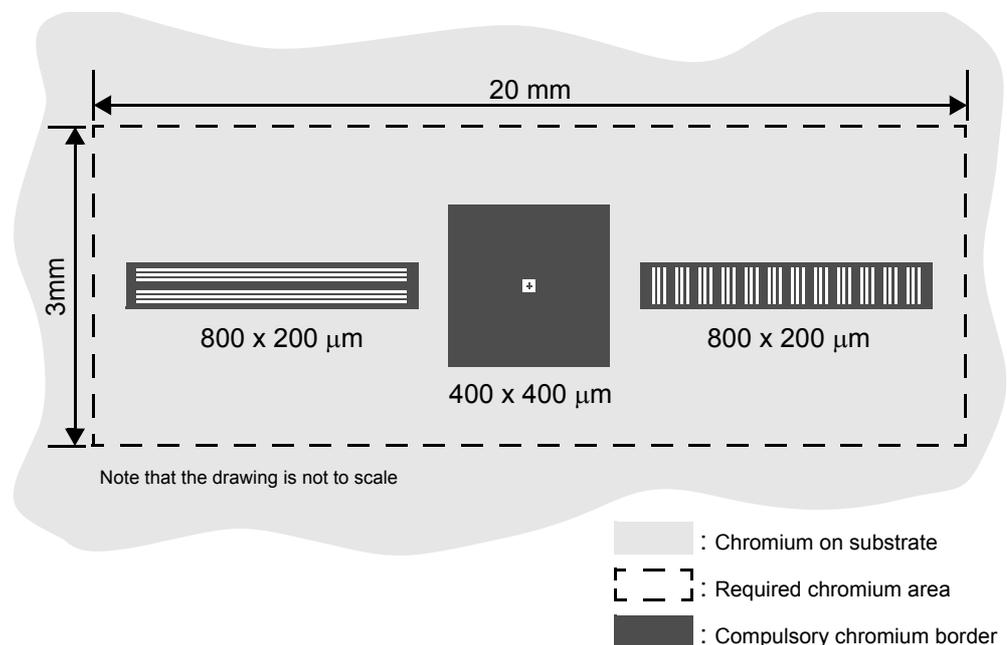

Figure 3.3 Chromium borders around TIS marks
1. The **compulsory** chromium border. This area only applies to the individual TIS-mark components (see also Figure 3.3). This compulsory chromium border is the area round the individual gratings of a TIS mark in which no other features are allowed.
2. The **required** chromium border (area) around the TIS mark. The complete TIS mark itself must also be surrounded by a chromium area. (See Figure 3.3).